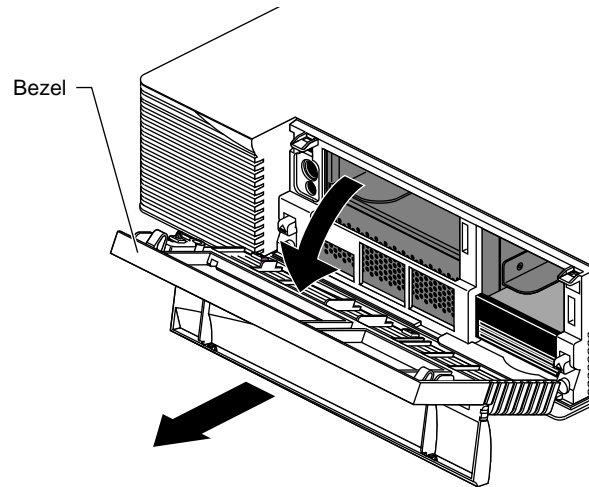

Figure 6-2 Removing the Bezel
2. Pull the bezel away from the chassis, as shown in Figure 6-2.